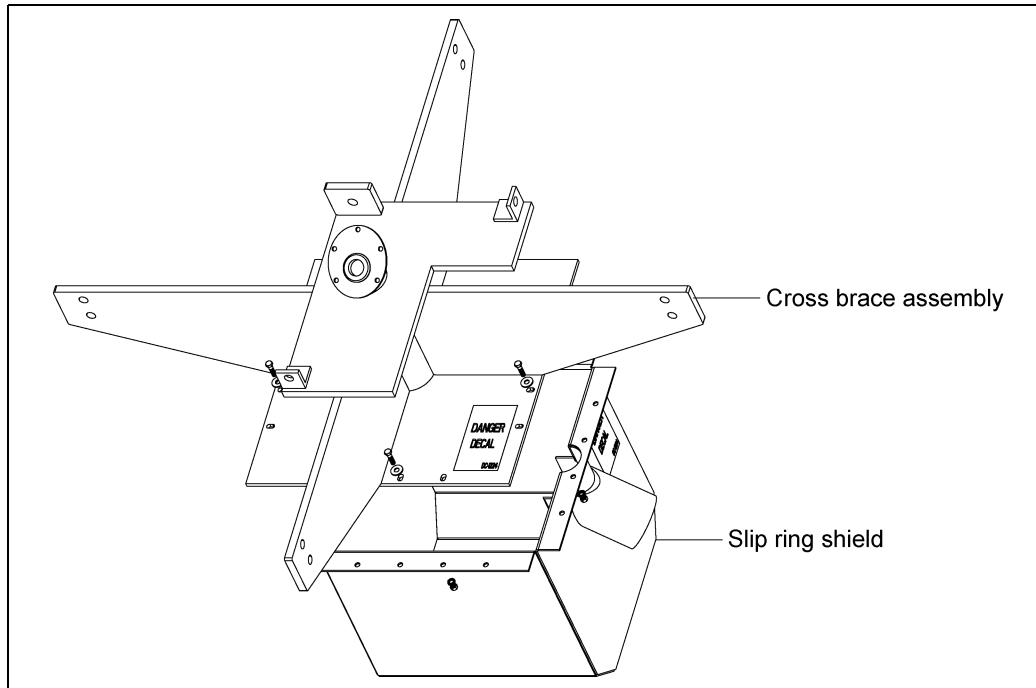

Figure 4A
1. Assemble the slip ring shield onto the cross brace assembly using four (4) 1/4" x 1" hex bolts and nuts. Assemble one nut and bolt to each side of the collector ring shield. Do not tighten these at this point. (See Figure 4A.)